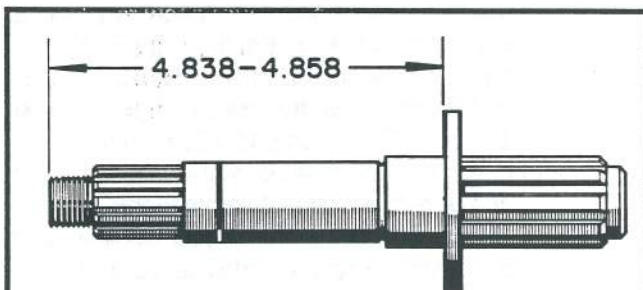

FIG. 52 INSTALLING SEAL PROTECTOR
- (16.) If new knife roll drive shafts (Item 13) are being used, it will be necessary to install a seal protector (Item 20) on each shaft. The protector is pressed on from the outer end of the shaft to a dimension of 4.838 to 4.858 from the inner (threaded) end of the shaft to the rear surface of the seal protector. (See Fig. 52).
- (2.) Install new clutch shaft bushings (Item 46) into ends of mainshaft so that bushings are flush with the ends of the shaft. Place double faced bevel gear (Item 35) into housing through front cap opening. Insert main shaft (item 7) into housing and through the double faced gear smoothly. Install spacers (Item 31, original shims (Items 44, 45) and belt drive gears (Item 5) onto main shaft in their original locations. New seals (item 4) and ball bearings (item 3) may now be installed in end caps (Item 2) if required. Apply a light coat of clean grease to the lips of the seals and slide end caps onto main shaft. If all the original parts are being used, install the same combination of gasket shims (Items 8, 9, 10) under the end caps. Proper engagement of the belt drive gears should result as well as correct clearance in the main shaft bearings (Item 3). If any of these internal parts have been replaced, gear mating and gear lash should be checked and adjusted if necessary by adding or removing gasket shims (Items 8, 9, 10) and shims (Items 44, 45). Correct gear lash is .020-.030 at the gear tooth or .020 - .030 at a point 2-1/16" from the center of the belt drive shaft (item 28). Main shaft should be checked for zero end play. The main shaft can be adjusted from end to end by transferring gasket shims (Items 8, 9, 10) behind end caps from one end to the other to obtain proper mating and lash in the gears. When satisfied that proper adjustment has been achieved, apply a light coating of silicone gasket sealant to mating surfaces and tighten machine screws.
- (3.) Install new seals (item 27) in top caps (Item 30). Install retaining ring (Item 29) onto belt drive shaft (Item 28). Place key (Item 25) and belt drive shaft driven gear (Item 24) on inner side of shaft and press gear onto shaft so that it is seated against the shoulder on the shaft. Press sealed bearing (Item 26) onto outer side of shaft until it seats against retaining ring. Pack the cavity in top cap (Item 30) with clean grease, grease seal lips and slide cap onto shaft. Insert shims (Items 41, 42, 43) into bearing seat in housing in their original location. Place original gasket shims (Items 32, 33, 34) under top cap and install shaft/cap assembly into housing. Check for proper gear lash and zero shaft end play as in step (2.), especially if original parts have been replaced. When satisfied that proper adjustment has been achieved, apply a light coating of silicone gasket sealant to mating surfaces and tighten counter sunk screws.
This prevents the inner lip spring from popping out, causing premature failure. Both the inner and outer seals should face outward. Make sure the two seals are fully seated into the front cap and against each other. If new knife roll drive shafts (Item 18) are being used, it will be necessary to install a seal protector (Item 17) on each shaft. The protector is pressed on the shaft from the outer end to a dimension of 4.838 to 4.858 from the inner (threaded) end of the shaft to the rear surface of the seal protector (See Fig. 52). Carefully insert the shafts through the double seals and bearing cones previously installed in the front cap. Install a pre-lubed bearing cone (Item 14), knife roll shaft driven gear (Item 13), lock washer (Item 12) and lock nut (Item 11) on back side of each shaft. Use a thread bonding compound such as "Loctite" applied to the threaded portion of the shaft before installing locknuts. Tighten locknuts until an increased drag (preload) is felt in the bearings. Bend one or more of the tabs on the lockwasher into the notches in the lock nut. With the shafts installed, assemble the front cap to the housing. If you are using the original parts, install the same combination of gasket shims (items 20, 21, 22) under the front cap. If this is a new assembly use a combination of gasket shims under the front cap that results in knife roll drive shaft gear lash of .020 - .030 in the gears which can be measured at a point 1" from the center of the knife roll drive shaft. When proper gear lash has been achieved, apply a light coating of silicone gasket sealant to mating surfaces and tighten machine screws.